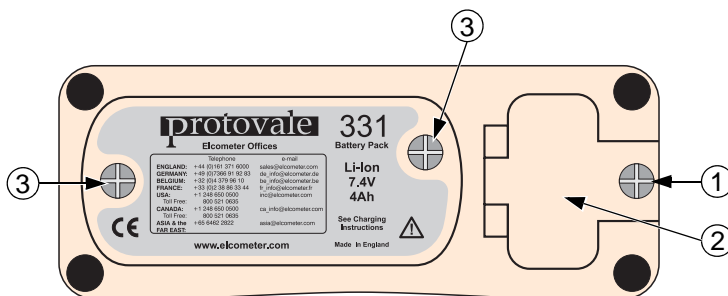

Figure 2. Covermeter rear panel
1. Referring to Figure 2, unscrew the retaining screw (1) and open the interface access cover (2) on the rear of the Covermeter.
To remove the battery pack for charging outside the Covermeter, unscrew the two battery pack retaining screws (Figure 2, item 3) at the rear of the Covermeter and slide out the battery pack. To charge the battery once it has been removed, connect the lead from the charger into the socket on the battery pack (Figure 3).